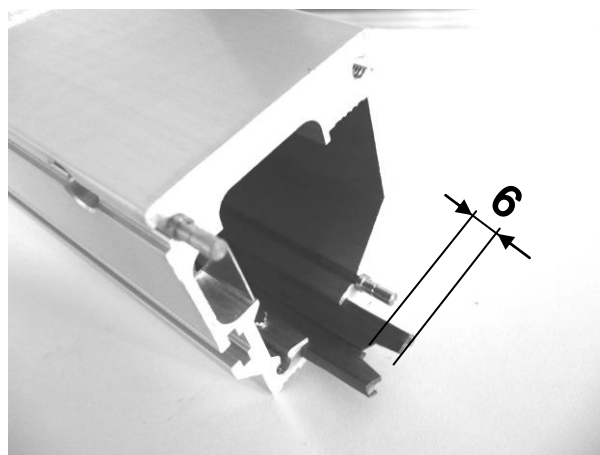
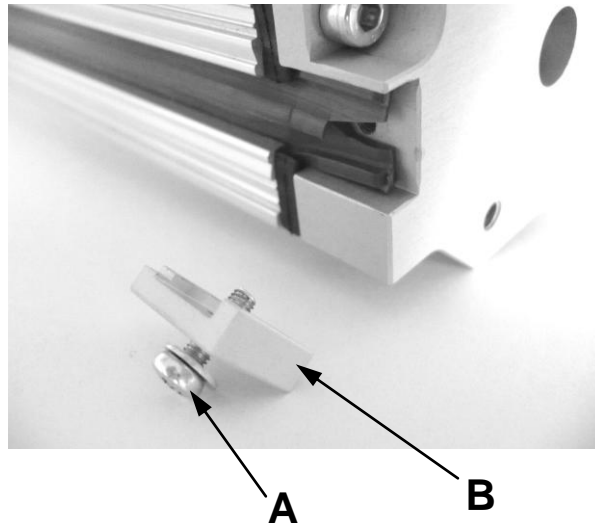

Figure 2.14
Figure 2.16
- c. Make a 6 mm incision in the final part of both sealing lips, so that they appear as shown in Figure 2.14. This incision will allow the installer to tighten screw A in the end cap (see Figure 2.16).
- Secure the sealing lips with screw A in plaque B, oriented as shown in Figure 2.16.
Repeat the operation of cutting the sealing lips, as described in paragraph 2.4.2. Secure the sealing lips with screw A in plaque B (see Figure 2.16).